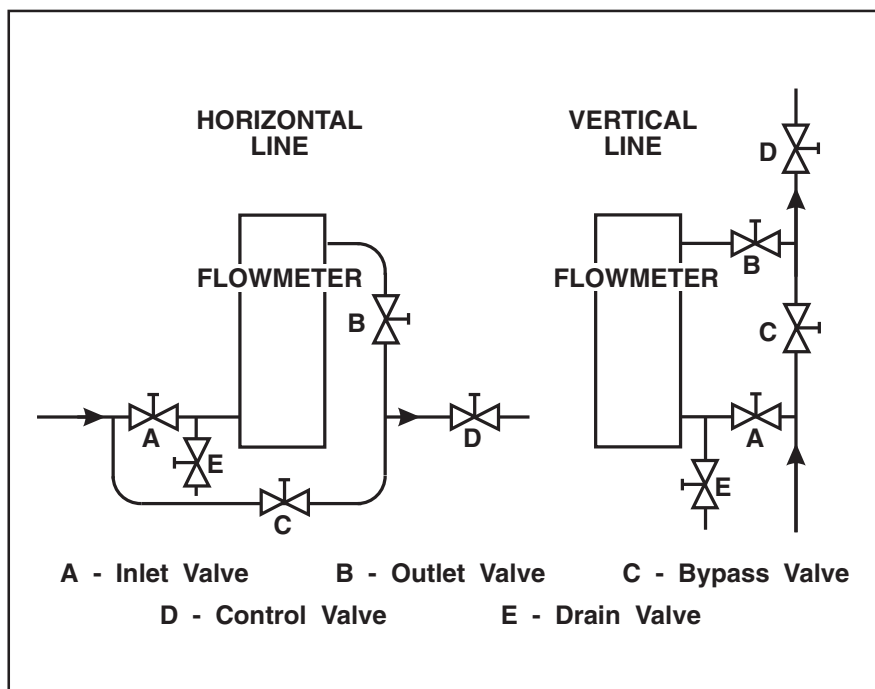

Figure 2-1 Typical Installations
- It is strongly recommended that the bypass piping arrangement shown in Figure 2-1 be used when installing the flowmeter. This arrangement will allow the flowmeter to be removed for repair or service without interrupting the flow stream.